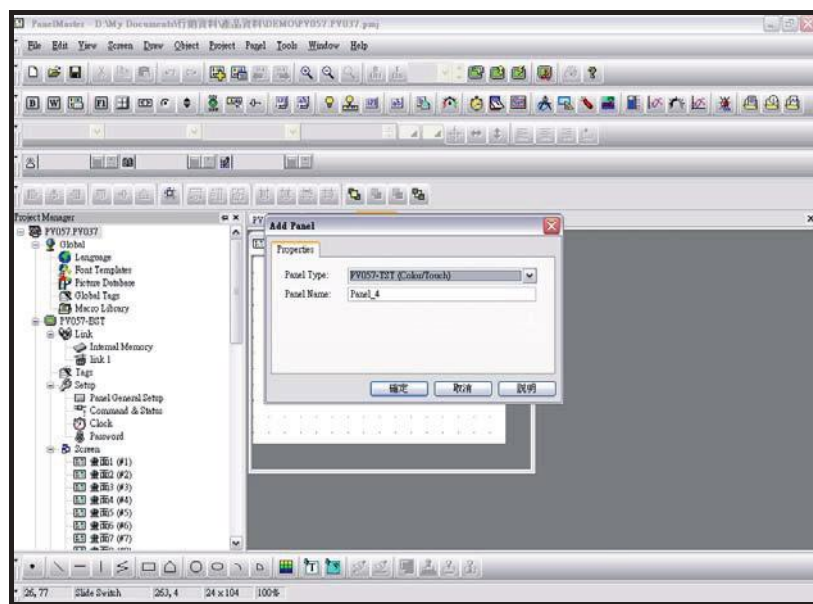

Figure 2-93 New project_step2_set the panel model no.and name
Step 2 : Add panels , see figure 2-93 shown as below.